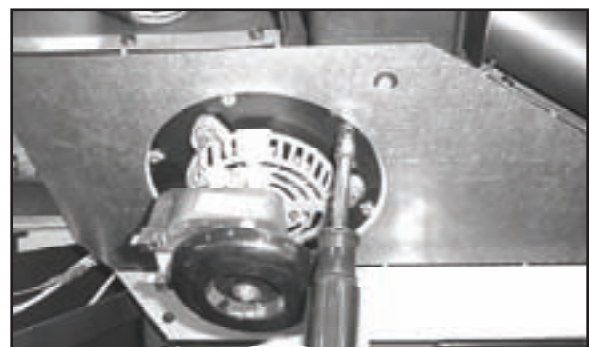

Figure 35.4
- There is a removable plate on the exhaust blower. Using a 1/4" socket or short standard screwdriver loosen the 6 screws in the keyhole shaped holes and rotate the plate. **Figure 35.4**